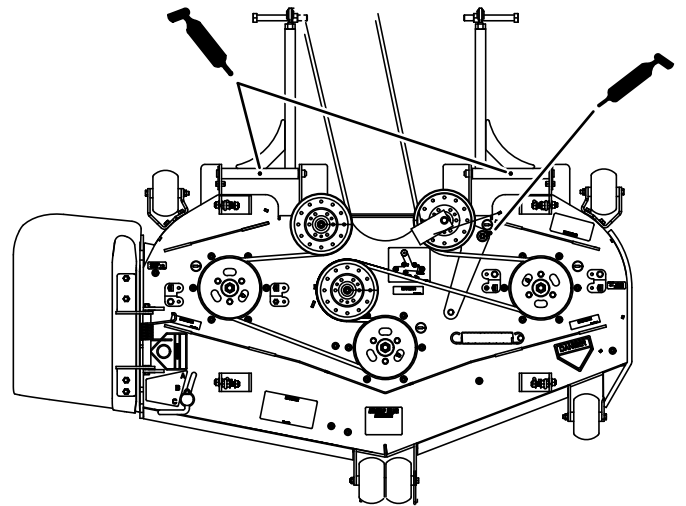

Figure 42
4. Grease the idler arm on the mower deck (Figure 42).
5. Grease the fittings on the push arms (Figure 42).